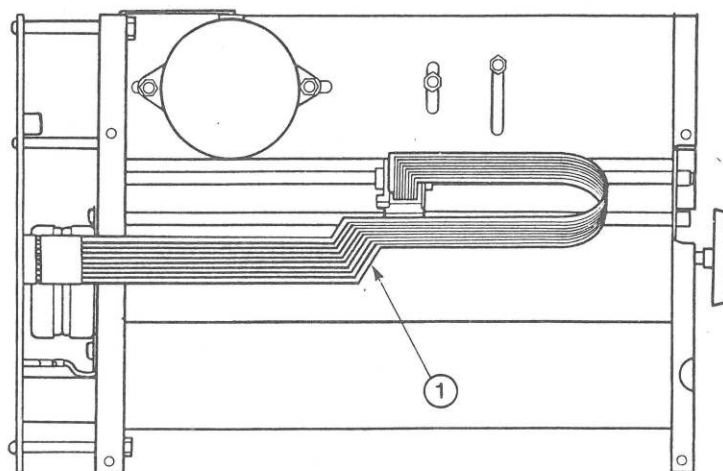

FIGURE 5
8. Hold the new cable up so the change of direction goes upward (Figure 5, #1), and carefully plug it to the deserializer card.
10. Bend the cable without twisting, and clip it to the print head assembly (Figure 5).